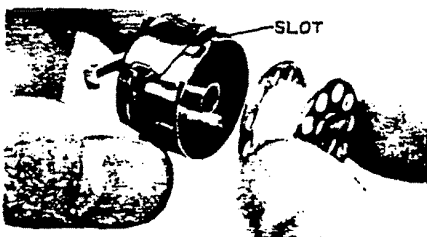

Fig. 5
- Step 1 : Hold bobbin case between thumb and forefinger of left hand so that the slot in the edge of the bobbin case is on top (Fig. 5).
- Step 2 : Take the bobbin between thumb and forefinger of right hand so that the thread on the bobbin leads from left to right and extends about four inches from the bobbin (Fig. 5).